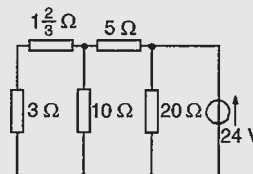

Figure 13.60
**Problem 16.** Use Norton’s theorem to determine the current flowing in the 3 Ω resistance of the network shown in Fig. 13.60. The voltage source has negligible internal resistance.